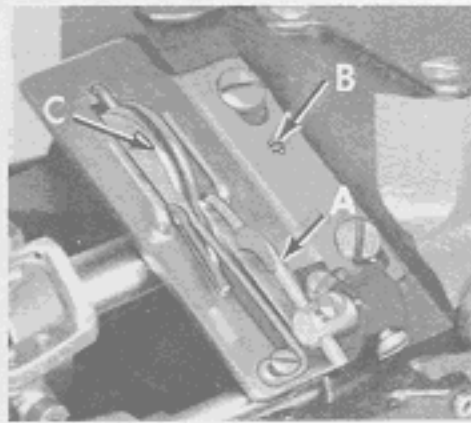

Fig. 17
The looper thread retaining finger (A, Fig. 17) located on the cast-off support (B) controls the amount of slack thread in the system and can be moved to any position. It should be set laterally so that it is midway between the two discs of the take-up (C) and the tip parallel with the discs.